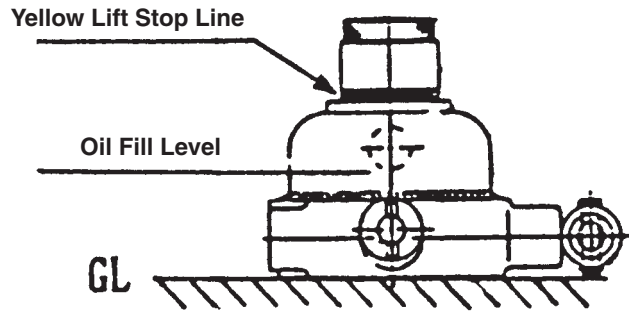

Figure 1
1. Fill with oil only to the level indicated in Figure 1.